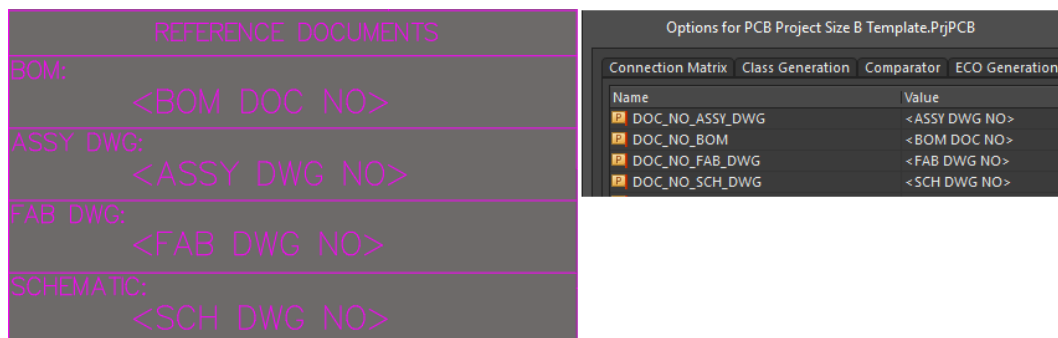

Figure 19. Reference Documents section of title block
69. Zoom in on the title block located at the lower right of the PCB, Figure 19. Take note of the Project-level parameters found in the Reference Documents section. These parameters allow document names to be set once in the Project Options Parameters tab, automatically updating the title block for reference and naming the files during output generation.